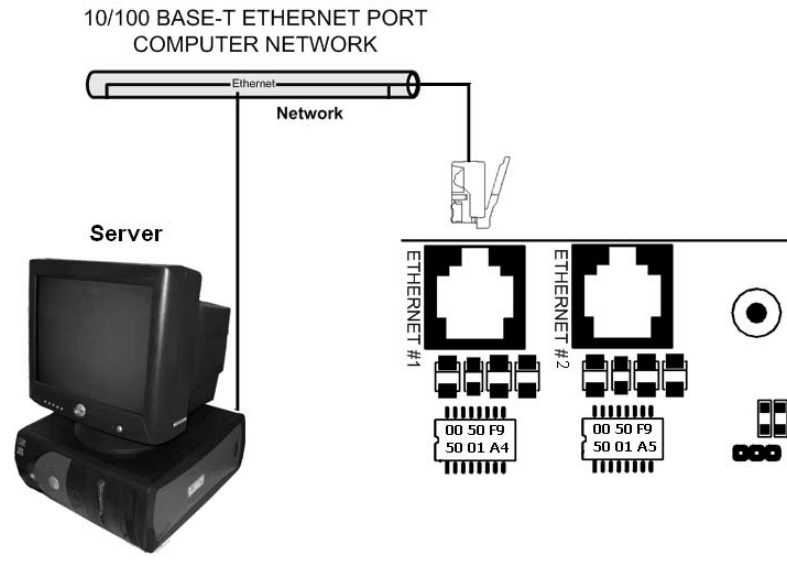

Figure 9. Ethernet #1 Connection to KT-NCC
1. Connect the cable from the KT-NCC to the network hosting the server application. Refer to Figure 9 on Page 20 above.